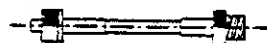

FIGURE 9
2. To replace Pinch Tube (refer to figure 9).